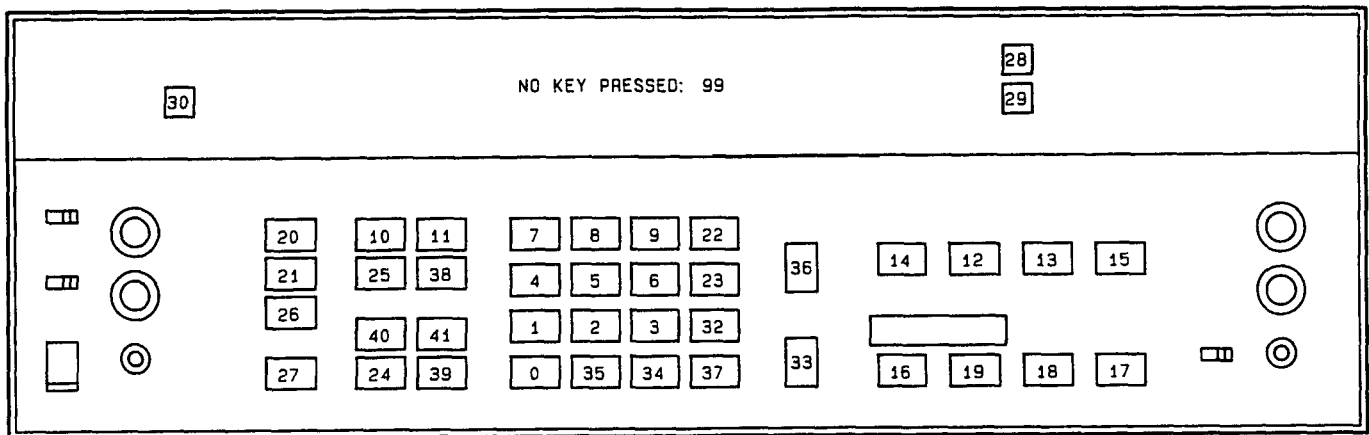

Figure 8-6. Key Codes for Key Scan (Service Special Function 60.0)
**60.0 Key Scan.** The keyboard is scanned and a keycode is displayed and output to the HP-IB. The key codes are shown in Figure 8-6.